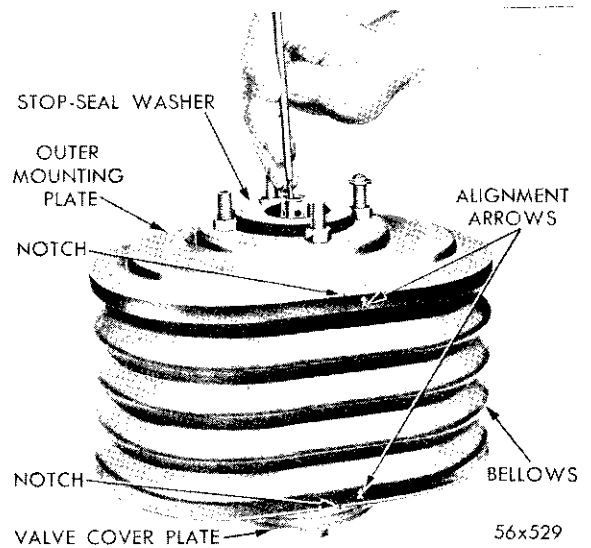
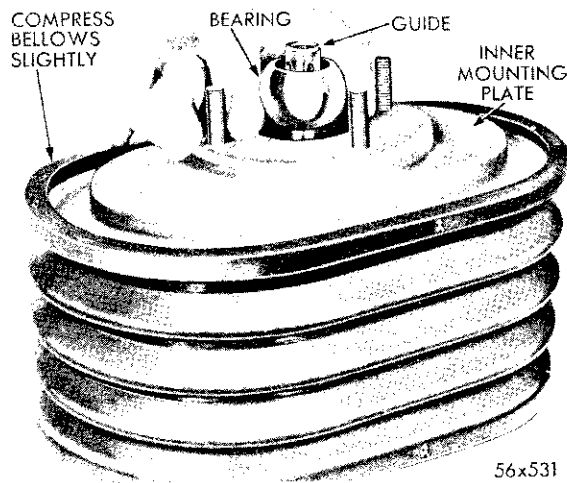

Fig. 26—Removing or Installing the Operating Rod
Fig. 27—Removing the Guide Bearing
(5) Slide the yoke off the end of the guide and away from the unit. (Slightly compress bellows by hand for clearance when loosening the set screw.)
(6) Remove the rubber stop seal washer.
(7) Lift the valve operating rod out of the unit, remove, and discard the valve operation rod button seal (Fig. 26).
(8) Remove the nuts that attach the outer mounting plate.
(9) Using a screwdriver, pry up gently on the plate to loosen. Lift the plate straight up and away from the unit. Discard the "O" ring.
(10) Compress the bellows by hand sufficiently to expose the guide bearing. Slide the bearing off the end of the guide (Fig. 27).
(11) Remove and discard the bearing seal from inside the bearing.
(12) Peel back the outer lip of the bellows com-